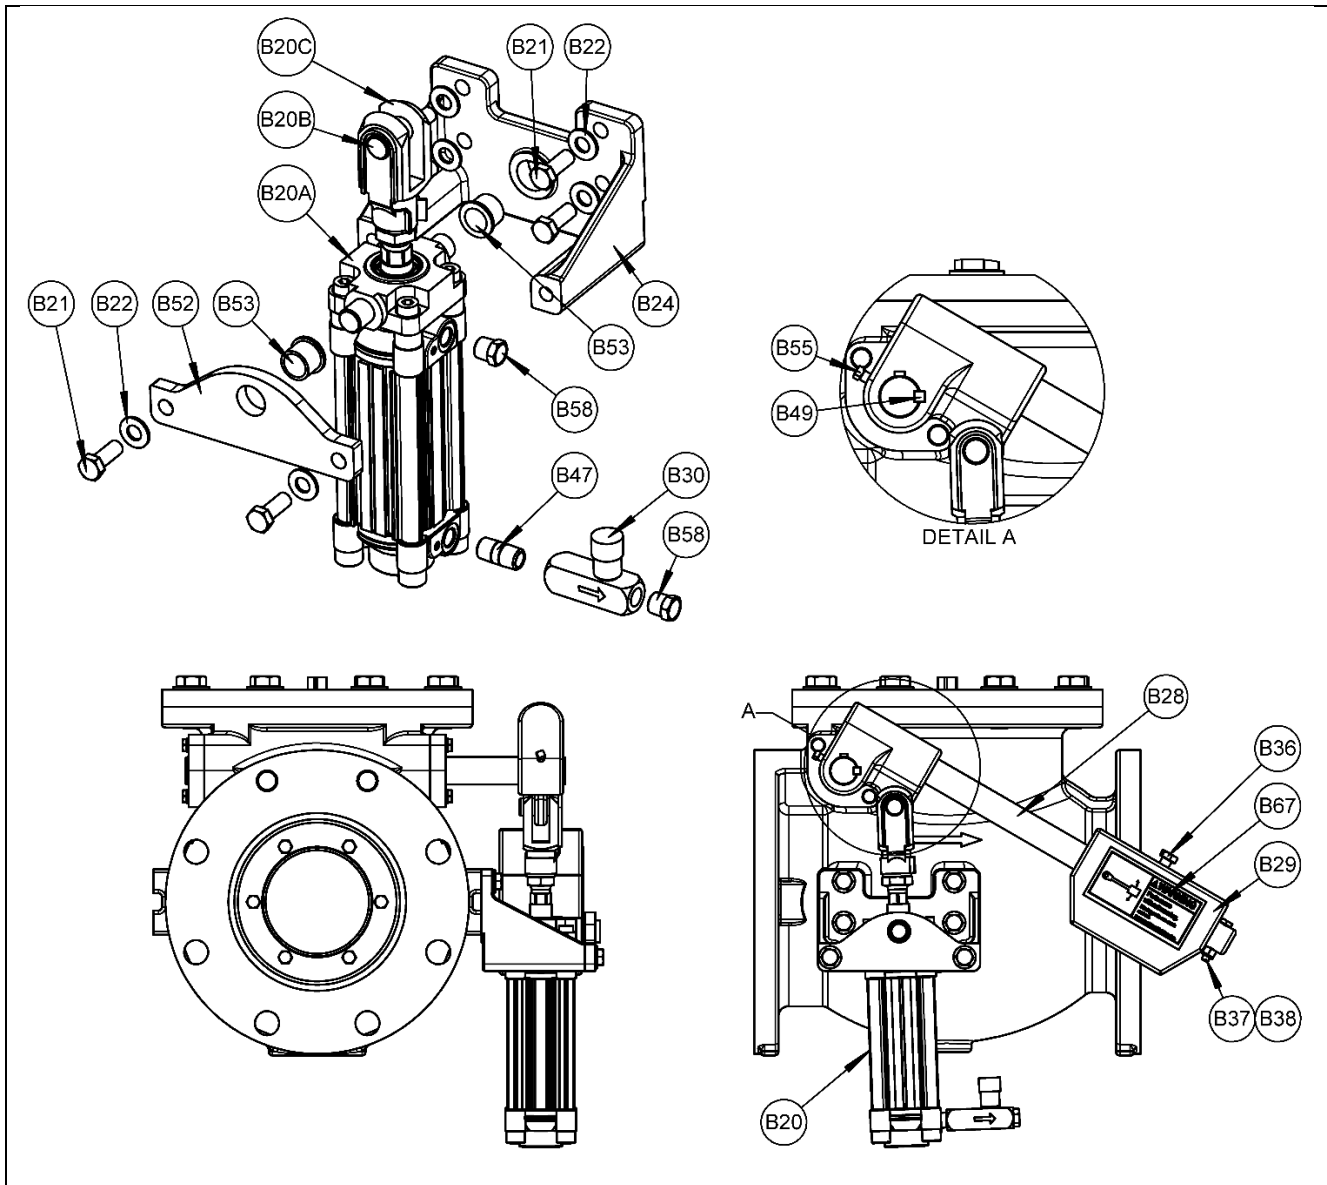

Figure 5: Lever & Weight with Air Cushion Cylinder (AC) Assembly
c. Valves equipped with Lever & Weight with Air Cushion Cylinder (AC) only (Figure 5):